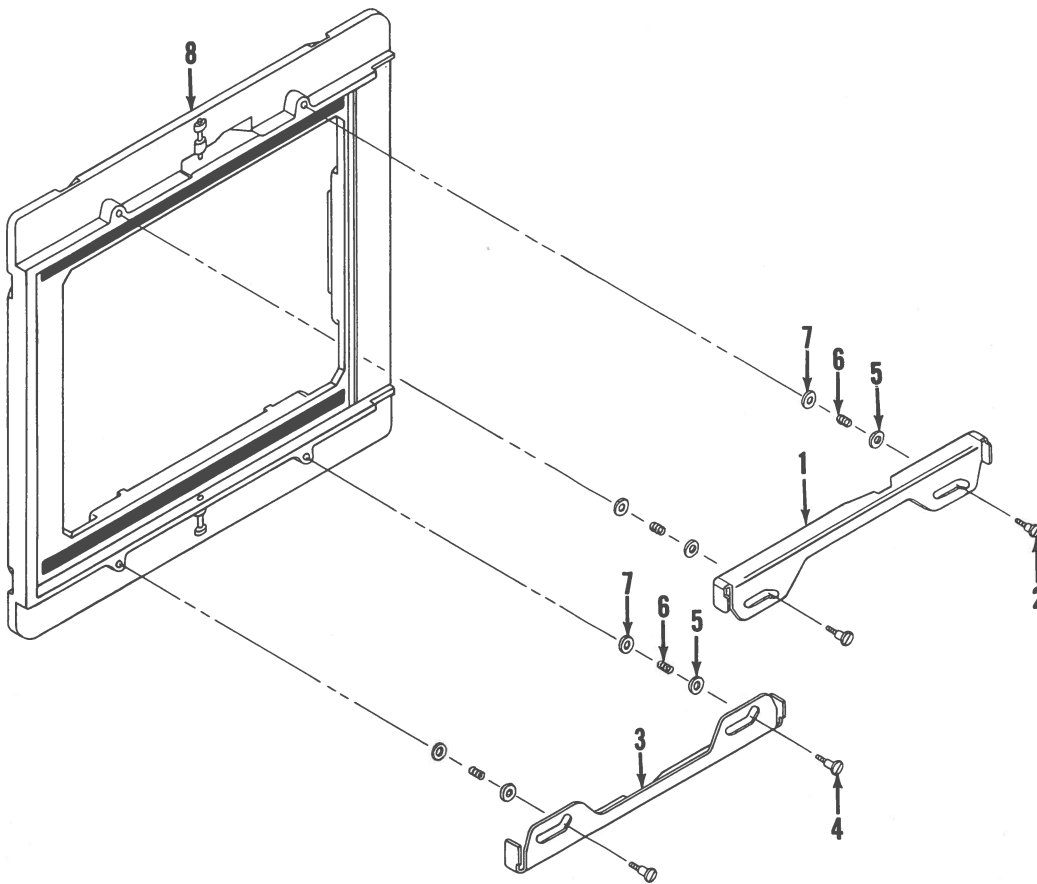

Figure 12C. REVOLVING FRAME COMPLETE
X. 2. REVOLVING FRAME COMPLETE - DISASSEMBLY AND REASSEMBLY (Figure 12C)
a. Remove two machine screws (2), upper slide lock (1), and two each flat washers (5), slide lock springs (6) and flat washers (7).
b. Remove two machine screws (4), lower slide lock (3), and two each flat washers (5), slide lock springs (6) and flat washers (7) from frame assembly